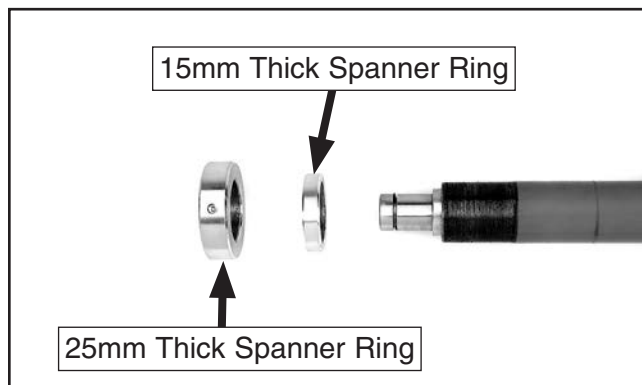

Figure 10. Spanner rings removed.
10. Remove the threaded spanner rings from the piston and lay them out on the workbench, as shown in **Figure 10**.